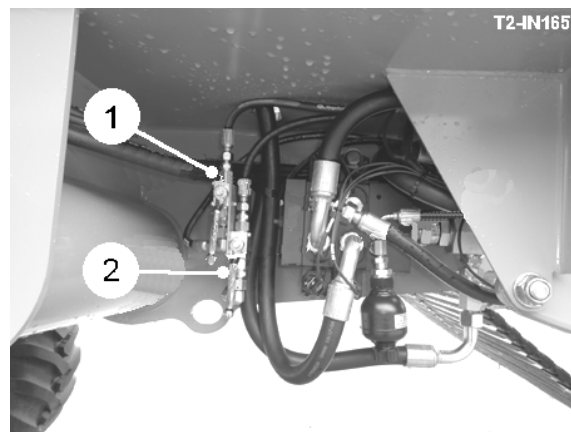

Fig 19a
With the lock valve handles (item 1 & 2, fig. 19a) in the OPEN (inline) position, the LH and RH wheel leg rams operate in opposite directions to angle the machine. All four rams can also be closed to reduce the height of the machine when travelling on the road or extended when loading the machine onto a trailer.
On machines prior to Serial No. T2-293, to close the rams, operate the machine levelling until the LH rams are fully extended and the RH rams are fully closed. Lock the closed RH rams by setting the rear valve handle (item 1, fig. 19a) to the CLOSED (90°) position. Now operate the machine levelling again to close the LH rams.
To open the rams, operate the machine levelling until the LH rams are fully extended and the RH rams are fully closed. Lock the extended LH rams by setting the front valve handle (item 2, fig. 19a) to the CLOSED (90°) position. Now operate the machine levelling again to extend the RH rams. Once in the field, reset the lock valve handles (item 1 & 2, fig 19a) to the OPEN (inline) position.